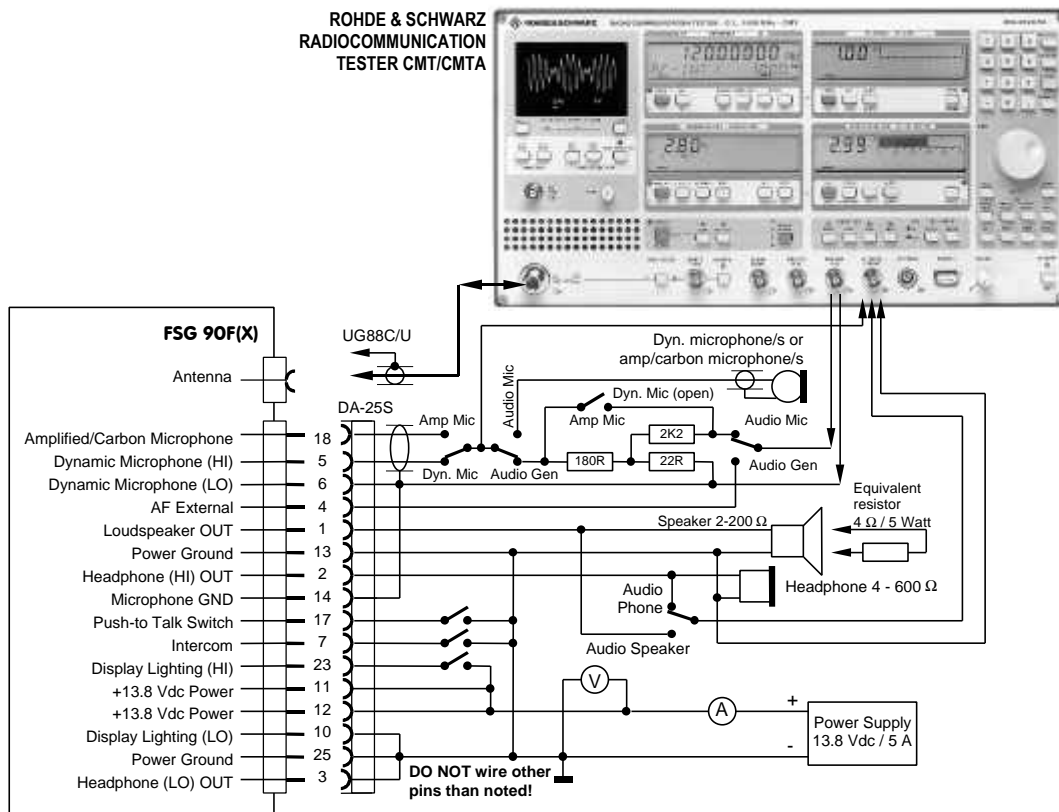

Fig. 3-1: **FSG 90F System**
- a) Interconnect the radio with a test wiring harness (according to figure 3-1) to the test bench setup. For **FSG 90F** set supply to 13.8 Vdc at radio input terminals. For **FSG 90F-H1** set supply to 14.0 Vdc at radio input terminals. Turn ON the radio with the **ON/OFF/VOL** switch on front panel. Switch OFF the Squelch (push **SQ** button).